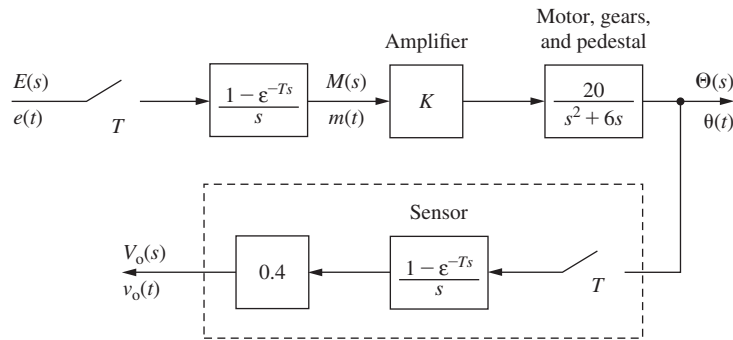

FIGURE P4.3-11 Block diagram for an antenna control system.
4.3-11. The antenna positioning system described in Section 1.5 and Problem 1.5-1 is depicted in Fig. P4.3-11. In this problem we consider the yaw angle control system, where $\theta(t)$ is the yaw angle. The angle sensor (a digital shaft encoder and the data hold) yields $v_o(kT) = [0.4 \theta(kT)]$, where the units of $v_o(t)$ are volts and $\theta(t)$ are degrees. The sample period is $T = 0.05$ s.